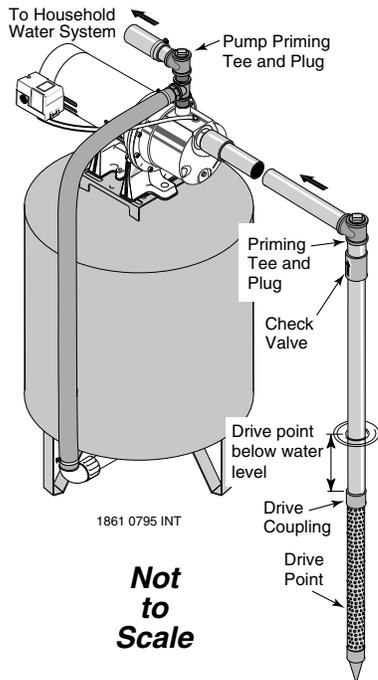

Figure 1: Driven Point Installation
WELL POINT (DRIVEN POINT) INSTALLATION (Figure 1)
3. Use the fewest possible fittings (especially elbows) when connecting the pipe from the well point to the pump suction port. The suction pipe should be at least as large as the suction port on the pump (include a check valve if your pump is not equipped with one – see Figure 1). Support the pipe so that there are no dips or sags in the pipe, so it doesn’t strain the pump body, and so that it slopes slightly upward from the well to the pump (high spots can cause air pockets which can air lock the pump). Seal the suction pipe joints with teflon tape or a teflon based pipe joint compound. Joints must be air- and water-tight. *If the suction pipe can suck air, the pump cannot pull water from the well.* If one well point does not supply enough water, consider connecting two or three well points to one suction pipe.